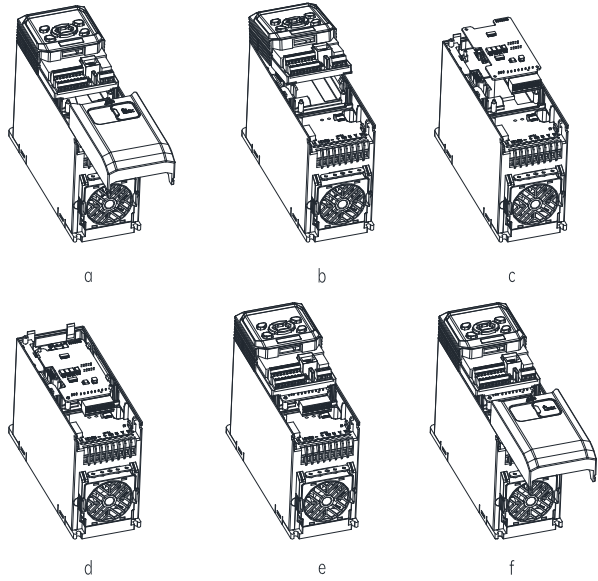

Fig. 7 PG card installation steps
- (1) When the drive is powered off, press the granulated part on the middle-upper of the lower cover, and slide it down firmly to take down the cover, as shown in Fig. 7-a.
- (2) Use a straight screwdriver to pry open the two snap-fit joints between the control box and the drive, and then remove the control box upwards, as shown in Fig. 7-b and c.
- (3) Install the PG\*1S card: Hold the PG\*1S card with its terminal block downwards, then align the three round holes on the PG\*1S card with the location column, and press down to buckle the PG\*1S card firmly into the four snap-fit joints, as shown in Fig. 7-d.
- (4) After the PG card is installed, align the control box with the snap-fit joints, and press down the control box to make its lower part firmly buckled, then slide the lower cover to lock it on the drive, as shown in Fig. 7-e and f.